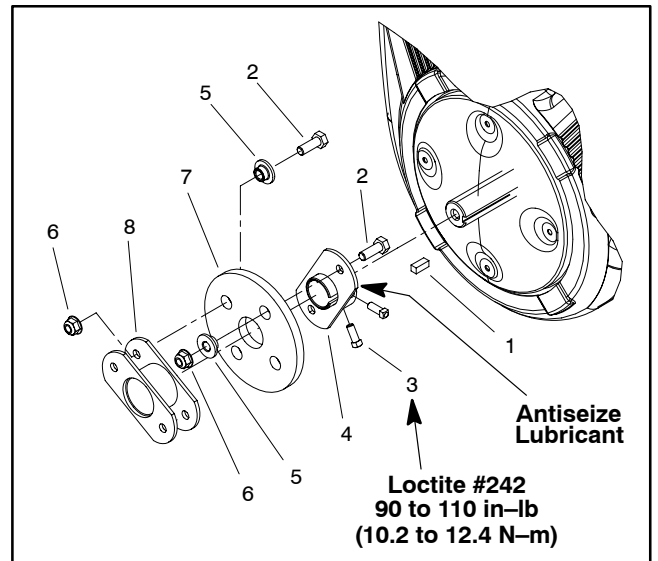

Figure 12
15. Loosen two (2) set screws on the engine hub to allow hub removal from the engine stub shaft (Fig. 12).
16. Remove lock nut and cap screw securing engine and negative battery cable to the engine support. Locate and retrieve lock washer (item 14). Position cable away from engine.
17. Remove remaining three (3) lock nuts and cap screws that secure the engine to the engine support.
D. Install three (3) cap screws and lock nuts to secure the engine to the engine support. Do not fully tighten lock nuts.
G. Tighten four (4) cap screws and lock nuts to secure engine to machine.
4. Position engine hub on engine stub shaft so that rubber pump drive couplings are not distorted. Apply Loctite #242 (or equivalent) to threads of engine hub set screws. Tighten both set screws on the engine hub to secure hub to the engine stub shaft (Fig. 12). Torque set screws from 90 to 110 in-lb (10.2 to 12.4 N-m).